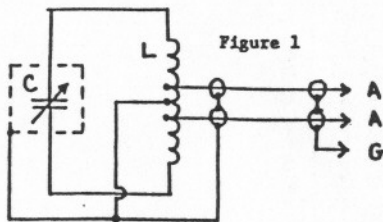

Figure 1
In my opinion, loop antennas should be balanced because balanced loops have deeper nulls than unbalanced loops, which makes them better for nulling local noise sources or strong interfering stations. The simplest way to connect a balanced air core loop to an HQ-180(A) is by direct coupling with balanced taps; see Fig. 1 below.
The upper and lower frequency limits of the tuning range are determined by the air variable capacitor capacitance range and by the spacing between turns. In my previous article I recommended a 660 pF air variable, and discussed several sources. In that article I neglected to mention that if the capacitor has trimmers, the trimmers should either be removed (the best approach) or at least set for minimum capacitance. Otherwise, the minimum capacitance of your air variable capacitor may be rather high, which would restrict the tuning range. With 11/16" spacing between turns, 1-3/4" gap between 7 turn halves, and a 600 pF air variable, the tuning range is from just below 540 KHz to beyond 2000 KHz for the circuit of Fig. 1. With the amplified version which I will describe below, the tuning range is about 510 KHz to 2050 KHz. I did not have a 660pF air variable capacitor when I built my original loop, so the tuning range is not quite as wide as I would like. My design target was at least 500 KHz - 2000 KHz. That is why I recommend a 660pF capacitor for the main tuning capacitor. With narrower spacing between turns, the high end frequency limit is lower -- about 1925 KHz for 1/2" spacing, and about 1750 KHz for 1/4" spacing. The narrower spacings also lower the low end
As shown in Fig. 1 the tuning capacitor C is mounted inside a metal box. This is not necessary for the unamplified version. In my experience nulls are about as good with a simple "open air" mounting arrangement as with a metal box. However, the box does protect the capacitor from dust and from damage by accidental contact. If the capacitor is mounted in a metal box, it must be insulated from ground, and the tuning knob should be isolated from the tuning knob with an insulated coupler such as a Millen #39002. Shortcuts like using a short length of 1/4" wood dowel are acceptable for prototyping loops, but they don't hold up well under heavy use. The coax for connecting the loop to the receiver may be RG-58 (my choice), RG-59, miniature coax, or even audio coax. Wires entering and exiting the box may be implemented with grommet lined holes, or with insulated feedthroughs (H. H. Smith #9550 or #9555) and connectors (RCA, BNC, or SO-239). I like Smith #9550 feedthroughs and BNC connectors.
As I said above, the output impedance of the loop of Fig. 1 is not well matched to the input impedance of an HQ-180(A). A better impedance match is obtained by using a balun; see Fig. 4 below. The balun T of Fig. 4 is a 4:1 balanced to unbalanced broadband transformer. With the 4:1 balun, the 4.9K ohms source impedance of the taps is transformed into a 1.25K ohms source impedance. However, there is little, if any, difference between the 8-meter readings for the two methods of feed. Apparently any loss due to mismatch in the balanced feed of Fig. 1 is offset by the higher voltage levels of Fig. 1. The only advantage of the unbalanced feed circuit of Fig. 4 is that it permits the use of a connector (PL-259, or BNC with a BNC to PL-259 adapter) for connecting the coax to the HQ-180(A).
As with Fig. 1, the circuit of Fig. 4 may be mounted "open air" or the capacitor and toroid may be mounted in a metal box. And as before, the nulls of the open air version of Fig. 4 are about as good as with the metal box mounting arrangement. In Fig. 4 I have shown the coax attached to the A and G terminals on the HQ-180(A) chassis rear. Alternatively, you may use a PL-259 connector and attach to the SO-239 socket on the HQ-180(A) chassis rear. In both cases, be sure that the shorting link is connected to the adjacent A terminal.
L and C - same as for Figs. 1 and 4, see discussion following Fig. 1